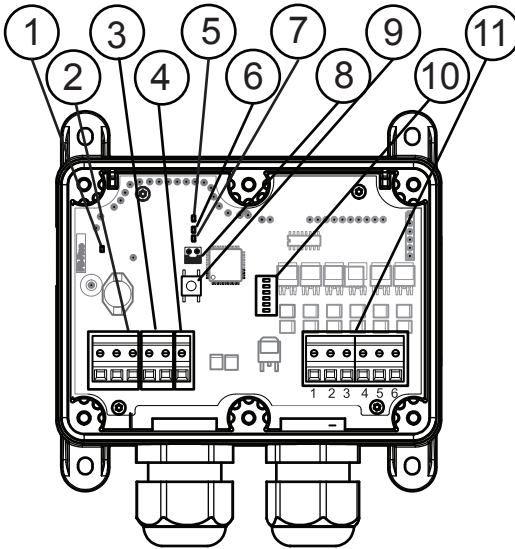
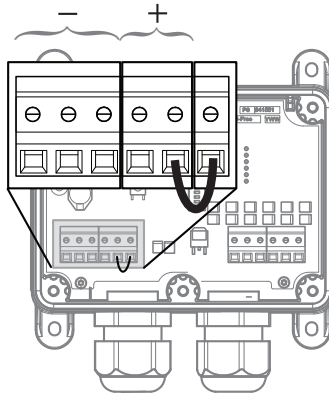

Figure 1. Sesam 800 RXM TL model indicators, connections and jumper.
Figure 2. Configuring internal supply of output power
The Sesam 800 RXM TL model has LED indicators that indicate different parameters (see fig. 1 for positions of the LEDs).
Power LED (see ① i fig. 1)
LED 5 Squelch (see ⑤ i fig. 1)
LED 6 Status (see ⑥ i fig. 1)
LED 7 Learn (see ⑦ i fig. 1)
Outputs LEDs (see ⑩ i fig. 1)
Connect 12/24 V DC (+) to position 3 and ground (-) to position 2 (see ③ and ② in fig 1).
Connect the equipment to be controlled to output terminals 1-6 (see ⑪ in fig. 1) and equipment ground to position 2 (see ② in fig. 1). If the outputs are to be powered by the same 12/24 V DC supply as the receiver place a jumper between the Output Power Input and Positive (+) 12/24 V DC using a 0,75 mm² cable (see fig. 2).